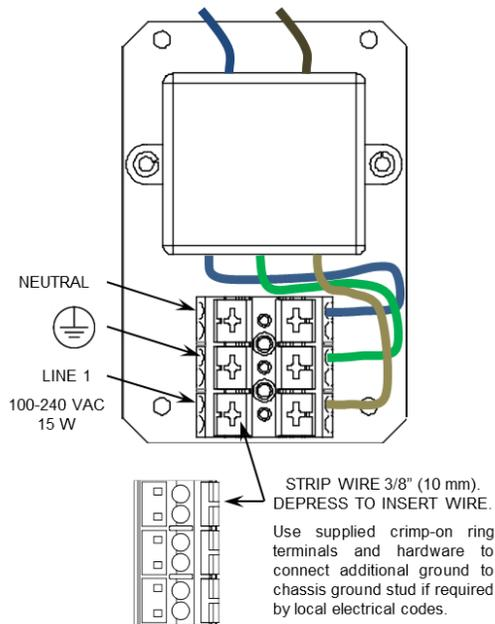
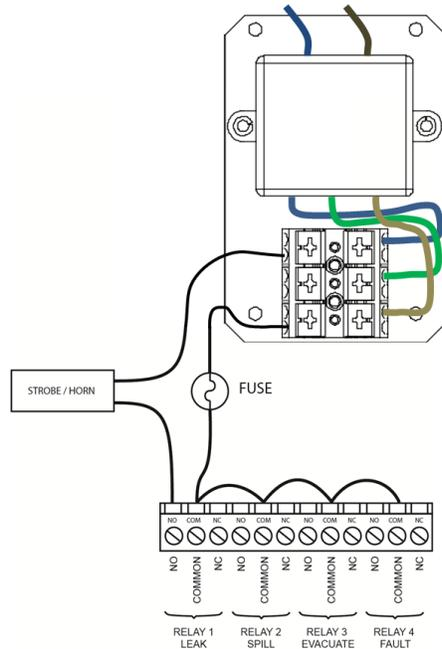
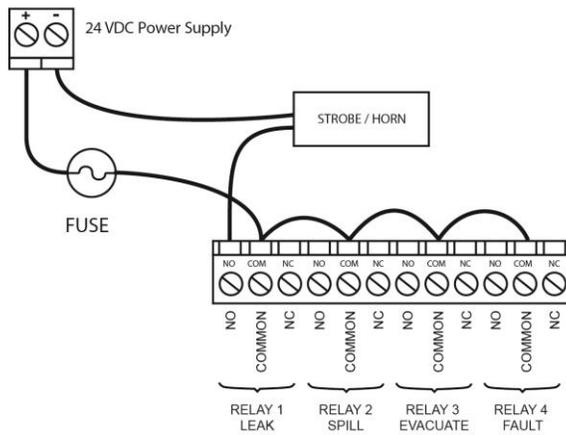

Figure 2-7. AC Power Connections
Figure 2-9. Typical AC External Alarm Relay 1 Wiring
Figure 2-10. Typical DC External Alarm Relay 1 Wiring
Locate a convenient service knockout and install electrical conduit in the typical manner (top left corner of the enclosure is strongly recommended for the knockout location). Locate the AC Input Terminal Block and Ground Stud on the inside of the monitor. Prepare the wiring by stripping the insulation back 3/8" (10 mm). Insert the incoming AC power neutral (white), earth ground, and live (black) wires to the Neutral (N) earth ground, and LINE 1 (L1) terminal locations as shown in Figure 2-7. Use a screwdriver to depress the Terminal Block contact and fully insert the stripped wire end. The Terminal Block includes two positions for each wire, which may be used to connect other AC powered devices as shown in Figure 2-9.
In Figure 2-9, power to this device is being tapped off the monitor's AC input. In Figure 2-10, power is supplied from an external power source